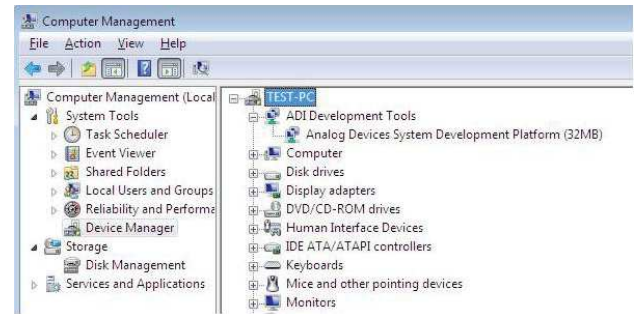

Figure 5. Device Manager
2. After the drivers are installed, check that the board has connected correctly by looking at the **Device Manager** of the PC. The **Device Manager** can be found by right clicking **My Computer**, selecting **Manage**, and then **Device Manager** from the list of **System Tools** (see Figure 5).